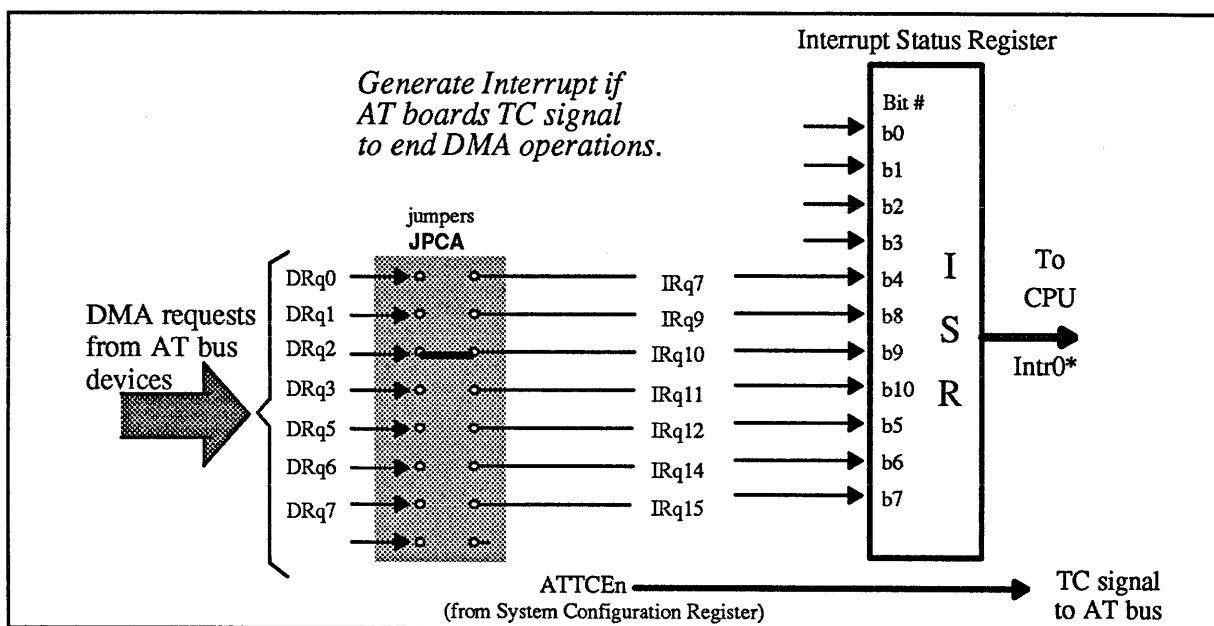

Figure A.3 Interrupt Logic for DMA TC Signal
Some AT bus devices require assertion of a signal named TC (Terminal Count) during the last bus cycle of a DMA transfer operation. The 9516, however, cannot generate the required TC signal. To allow boards requiring the TC signal to be used in the system, the M/120 provides a combination of interrupt hardware and software-controlled signals that can simulate the expected sequence. Figure A.3 illustrates the logic involved.
- The device that requires the TC signal must have its DRq signal jumper-connected to one of the interrupt inputs to the system's *Interrupt Status Register*. The system is shipped with DRq2 jumper-connected to the AT bus interrupt request signal IRq10 as shown in Figure A.3.